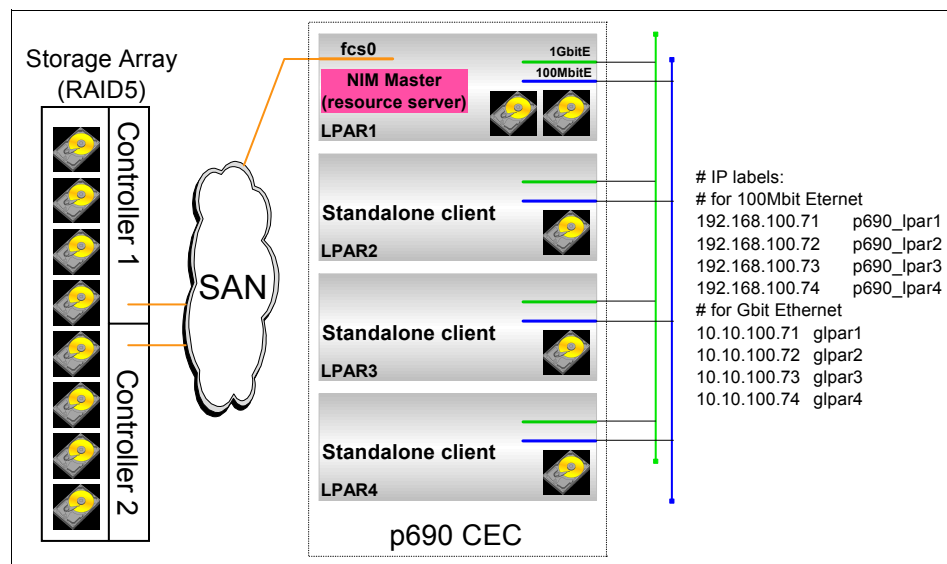

Figure 7-4 Test environment NIM diagram
For our first test, we had all partitions using the 10/100 Ethernet adapters, connected to a switch, with effective link parameters of 100Mbps, full duplex. The NIM server resources were allocated on the second internal SCSI hard disk. Later, we configured NIM to use the gigabit ethernet (connected to a GbitE switch), and also used the external fibre channel (FC) storage, connected via a Storage Area Network (a FC switch). A diagram of our test environment is presented in Figure 7-4.